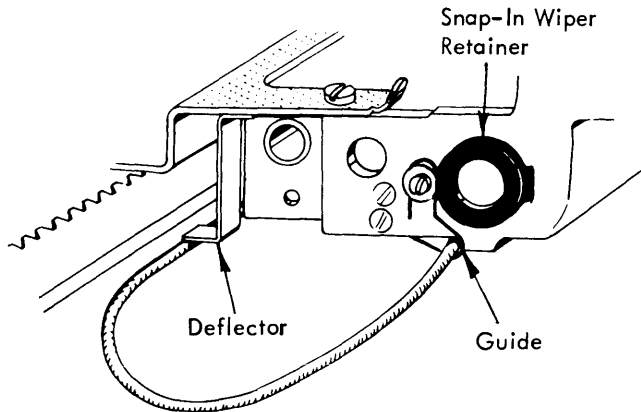

FIGURE 86. Carrier Cable Guide
- b. **Carrier Cable Guide** - Position the cable guide horizontal and as high as possible without binding the cable against the carrier (Fig. 86). This adjustment holds the cable up as high as possible yet allows it to slide freely front and rear as the carrier moves along the writing line.